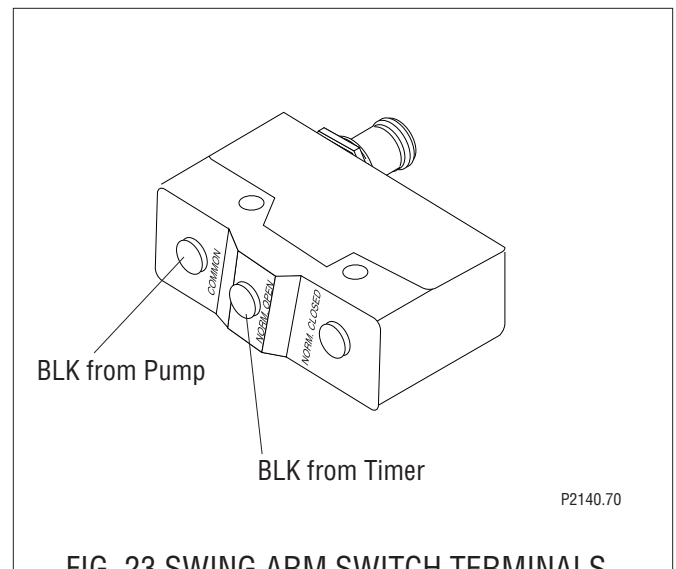

FIG. 23 SWING ARM SWITCH TERMINALS
2. Install new switch. Refer to Fig. 23 and reconnect the wires.